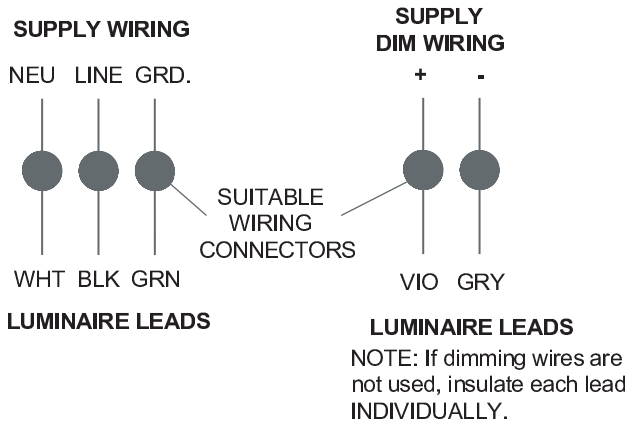

FIGURE 12
**WARNING:** Wiring to be performed by qualified electrician! Wire per National Electrical Code and local code, as shown in Figure 12. Wire dimming circuit as Class 1.
**NOTE:** PLCS series is supplied with leads for connection to both supply wiring and dimming leads (0-10V) - use Figure 12 for wiring.